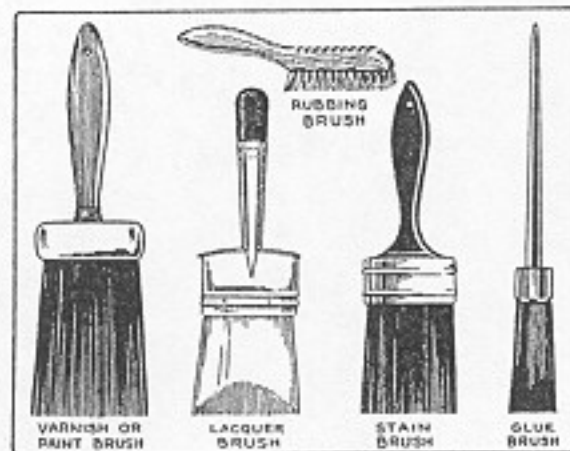

Fig. 327. Brushes.
2. With a soft, fitch-hair brush (Fig. 327) the lacquer is applied as it comes from the can. With plenty of lacquer on the brush, the operation is begun at one edge, and the first brush width is completed before
5. Rubbing brushes are made from short, stiff bristles bound in wood. They are used for rubbing down shellac, varnish, or lacquer on turned and carved parts (Fig. 327).